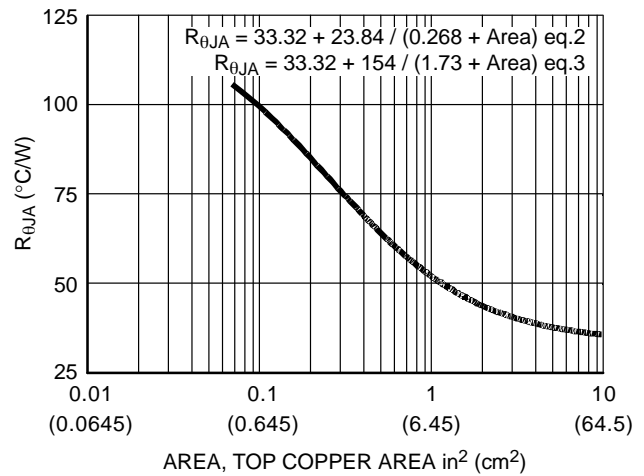

Figure 21. Thermal Resistance vs. Mounting Pad Area
**onsemi** provides thermal information to assist the designer's preliminary application evaluation. Figure 21 defines the  $R_{\theta JA}$  for the device as a function of the top copper (component side) area. This is for a horizontally positioned FR-4 board with 1 oz copper after 1000 seconds of steady state power with no air flow. This graph provides the necessary information for calculation of the steady state junction temperature or power dissipation. Pulse applications
Thermal resistances corresponding to other copper areas can be obtained from Figure 21 or by calculation using Equation 2 or 3. Equation 2 is used for copper area defined in inches square and Equation 3 is for area in centimeters square. The area, in square inches or square centimeters is the top copper area including the gate and source pads.